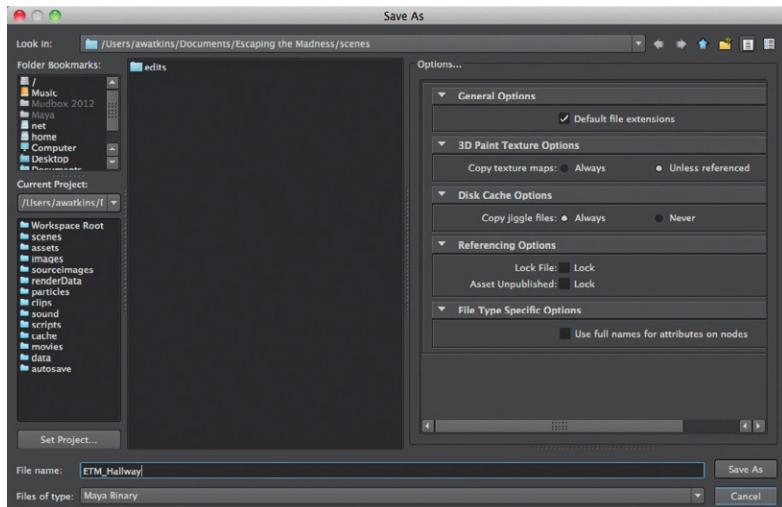

FIG 3.8 Saving a file. Note that this is a chance to double-check that your Project is set correctly.
Step 4: Save the scene with File > Save Scene. This will open a dialog box similar to Fig. 3.8. Notice that the “Look in”: input field that Maya has automatically taken us to the “scenes” folder inside the “Escaping the Madness” project folder. Name the file ETM_Hallway and click the Save button.